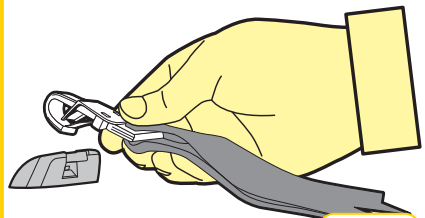

Figure 11
Step 10: Hook the attachment clip to the upper anchor fitting (refer Figure 11).